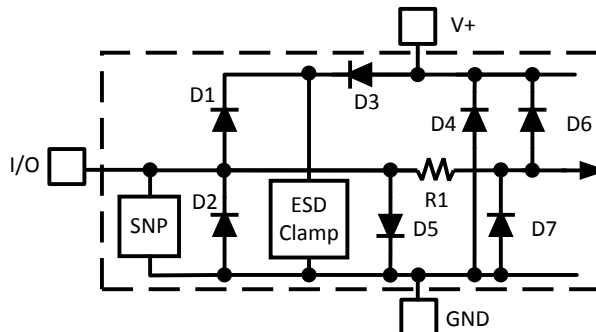

Figure 4. ESD Protection Input Structure
- (1) Absolute Maximum Ratings indicate limits beyond which damage to the device may occur. Operating Ratings indicate conditions for which the device is functional, but do not ensure performance limits. For ensured specifications and test conditions, see the Electrical Characteristics. The ensured specifications apply only for the test conditions listed. Some performance characteristics may degrade when the device is not operated under the listed test conditions.
- (2) All voltages are measured with respect to GND, unless otherwise noted.
- (3) When the input voltage (V_{IN}) at any pin exceeds the power supplies ($V_{IN} < \text{GND}$ or $V_{IN} > V+$), the current at that pin should be limited to 5 mA. Parasitic components and/or ESD protection circuitry for the LM63's pins are shown in Figure 4 and Table 1. The nominal breakdown voltage of D3 is 6.5 V. Care should be taken not to forward bias the parasitic diode, D1, present on pins D+ and D-. Doing so by more than 50 mV may corrupt temperature measurements. An "X" means it exists in the circuit.
- (4) Thermal resistance junction-to-ambient when attached to a printed circuit board with 2 oz. foil is 168°C/W.
- (5) Human body model, 100 pF discharged through a 1.5 k Ω resistor. Machine model, 200 pF discharged directly into each pin. See Figure 4 and Table 1 for the ESD Protection Input Structure.
- (6) See the URL <http://www.ti.com/packaging> for other recommendations and methods of soldering surface mount devices.